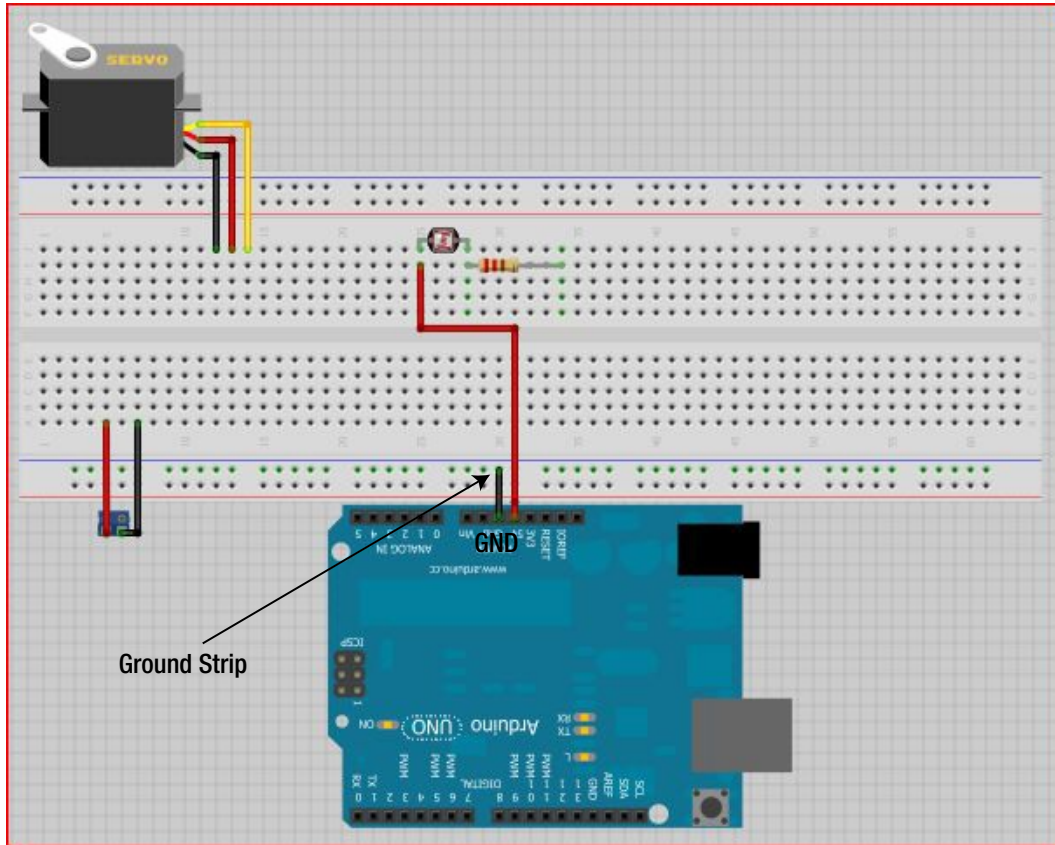

Figure 27-9. Attach ground from the Arduino to the ground rail on the breadboard
8. Run a jumper wire (we used black) from a GND pin on the Arduino to the ground rail (the column running parallel to the blue line) of the breadboard. Figure 27-9 illustrates this process.